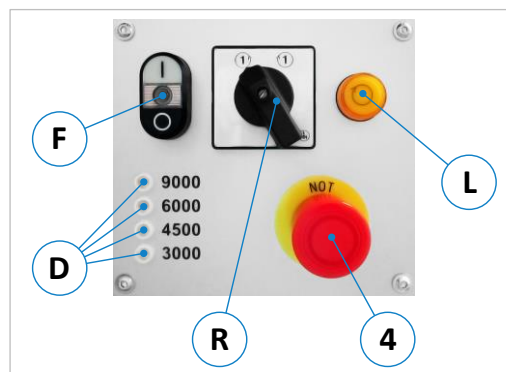

Figure 13: Control panel
After switching on the main switch (1), the speed set according to the V-belt position is indicated via the respective signal lamp (D), see ⇒ Figure 13. The speed setting is made according to chapter ⇒ 11.
In case of danger or malfunctions during operation, the machine can be stopped quickly and reliably by pressing the emergency stop button (4) on the control panel (see ⇒ Figure 13).
- With the spindle running, first press “○” on the switch (F) to switch of the spindle (see ⇒ Figure 13). Then wait approx. 15 → The motor brake opens automatically.